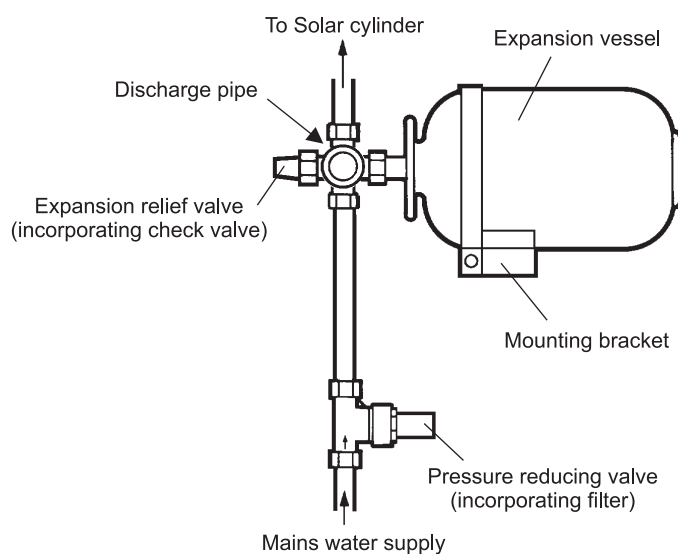

Fig. 2
- Connect the expansion relief valve to the expansion vessel as shown in Fig. 2.
- e. Connect the mains water supply to the pressure reducing valve and complete pipework as in Fig. 2. Thoroughly flush out the water pipework.